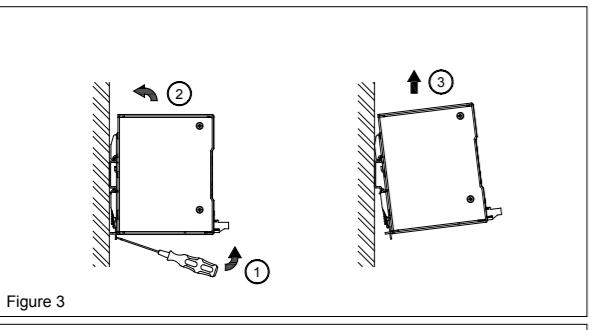

Figure 3
4. Dismounting (Fig. 3)
To uninstall, pull or slide down the latch as shown in Fig. 3. Then slide the PSU in the opposite direction, release the latch and pull out the PSU from the rail.